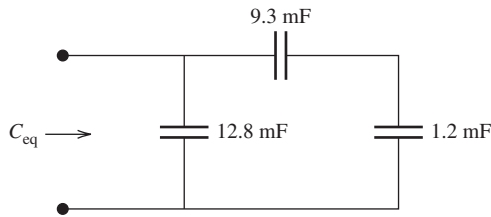

FIGURE P4.26 Circuit for Problem 4.26.
- 4.26 (B) For the capacitor network in Figure P4.26, what is the equivalent capacitance, C_{eq} ?